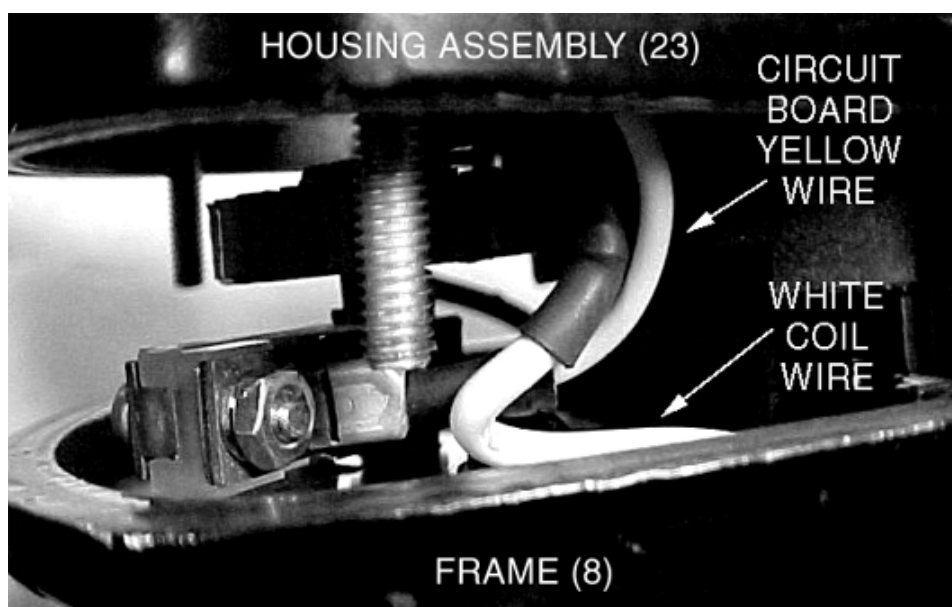

Figure 9.19
- E. Secure distributor block assembly (31) to frame (8) with screws (32). Torque screws (32) to 18-28 in-lbs.
9.19 CONNECT COIL (21) LEADS
- B. Connect coil (21) white lead to the circuit board terminal next to the yellow wire.
- C. Connect coil (21) green lead to the remaining circuit board terminal.
- D. Wrap circuit board yellow wire around outside of coil (21) white lead (see Figure 9.19), then connect it to the contact point terminal.